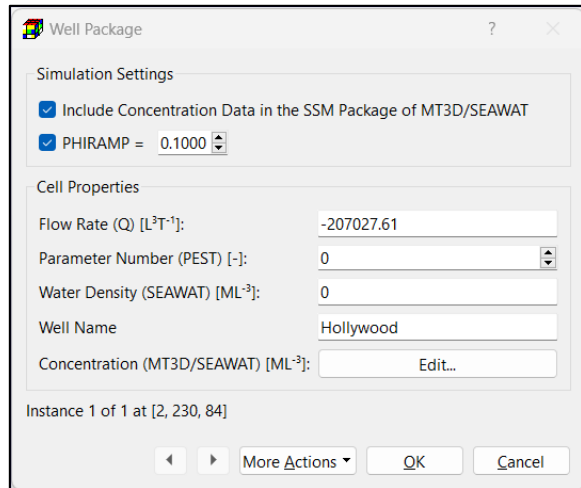

Figure 101. The Well Package dialog box for specifying cell properties
2. **Cell-by-cell input method:** Figure 101 shows the dialog box for specifying cell properties.
- **Flow Rate (Q) [L³T⁻¹]:** Negative values are used to indicate pumping wells, while positive cell values indicate injection wells. The injection or pumping rate of a well is independent of both the cell area and the hydraulic head in the cell. MODFLOW assumes that a well penetrates the full thickness of the cell. To simulate wells that penetrate more than one model layer with the WEL Package, a flow rate must be specified for each penetrated layer. The total flow rate for a multi-layer well is equal to the sum of flow rates of individual layers.